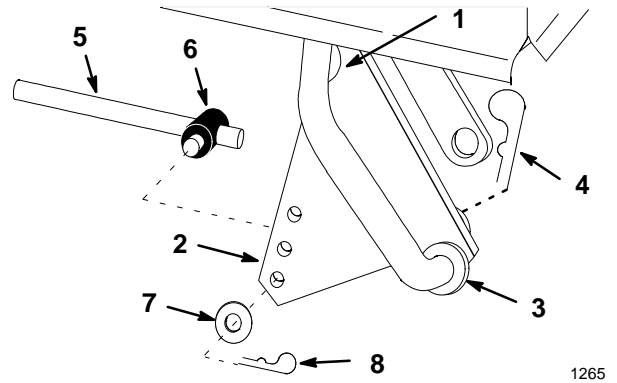

Figure 11
11. Position notch in lift plate around left side tractor lift arm and slide lift plate onto attachment lift arm (Fig. 11). Secure with hairpin cotter from mower, at lift arm.
12. Thread trunnion onto the lift rod and insert into one of the holes in the attachment lift plate with 9/16" (14 mm) washer and medium hairpin cotter (Fig. 11).